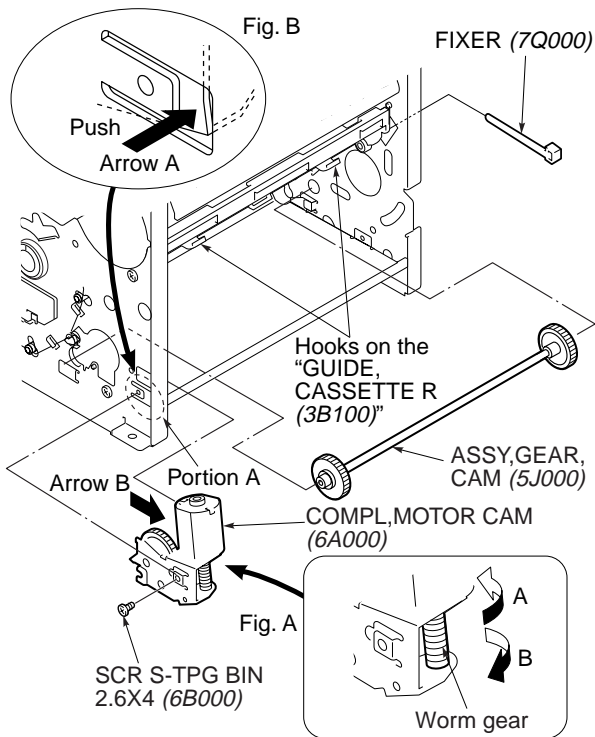
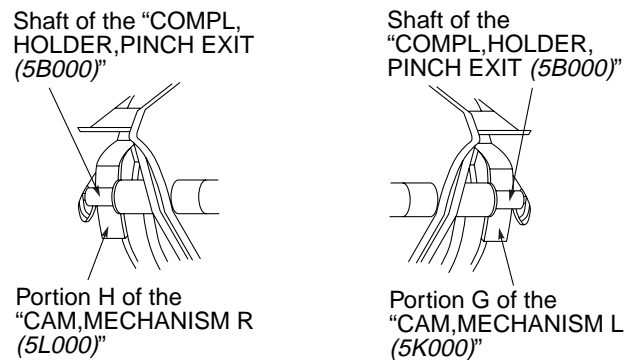

Fig. 3-9-1
Fig. 3-9-4
(See Figs. 3-9-1 to 3-9-4)
- 3) Remove the "SCR S-TPG BIN 2.6X4 (6B000)". (Refer to Fig. 3-9-1.)
- 6) While pushing the "COMPL,MOTOR CAM (6A000)" in the direction of the arrow A with a screwdriver, slide it in the direction of the arrow B and remove as shown in Fig. B of Fig. 3-9-1.
7. Referring Fig. A of Fig. 3-9-1, rotate the worm gear on the "COMPL,MOTOR CAM (6A000)" in direction A with your finger. Then place one end of the shaft of the "COMPL,HOLDER,PINCH EXIT (5B000)" onto portion G of the "CAM,MECHANISM L (5K000)" and the other end onto portion H of the "CAM,MECHANISM R (5L000)" as shown in Fig. 3-9-4.
8. Referring Fig. A of Fig. 3-9-1, rotate the worm gear on the "COMPL,MOTOR CAM (6A000)" in direction B with your finger, and verify that the shafts on either side of the "COMPL,HOLDER,PINCH EXIT (5B000)" slip down at the same time. If the "CAM,MECHANISM R (5L000)" and
Note: Fig. 3-9-4 is bottom views of the mechanism.